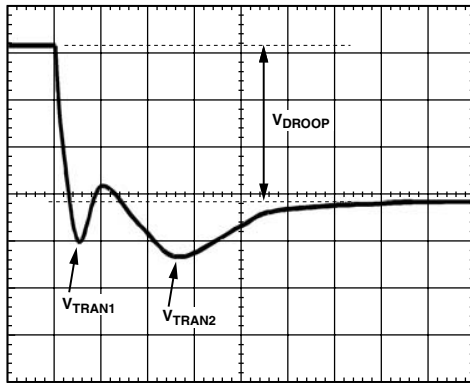
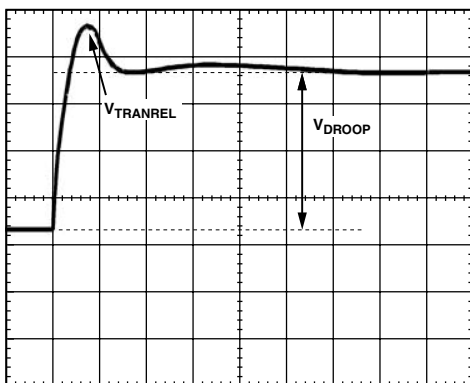

Figure 4. Transient Setting Waveform
Figure 5. Transient Setting Waveform
19. With dynamic load still set at maximum step size, expand scope time scale to see $2\ \mu\text{s}/\text{div}$ to $5\ \mu\text{s}/\text{div}$. The waveform may have two overshoots and one minor undershoot (see Figure 5). Here, V_{DROOP} is the final desired static value.
21. For load release (see Figure 5), if V_{TRANREL} is larger than V_{TRAN1} (refer to Figure 4), there is not enough output capacitance. Either more capacitance is needed or it is necessary to make the inductor values smaller (if inductors are changed, it is necessary to start design over using the spreadsheet and this tuning guide).